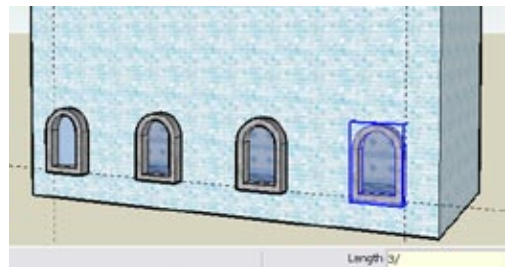

Figure 1-27
- Type **3/** and press **Enter** (don't forget the forward slash symbol after the number). This gives you four windows (three copies plus the original), with three equal spaces in between (Figure 1-27).